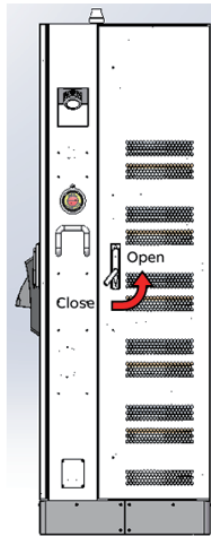

Figure 1
1. Use the key to open the right door. Turn the handle counterclockwise, refer to figure 1.